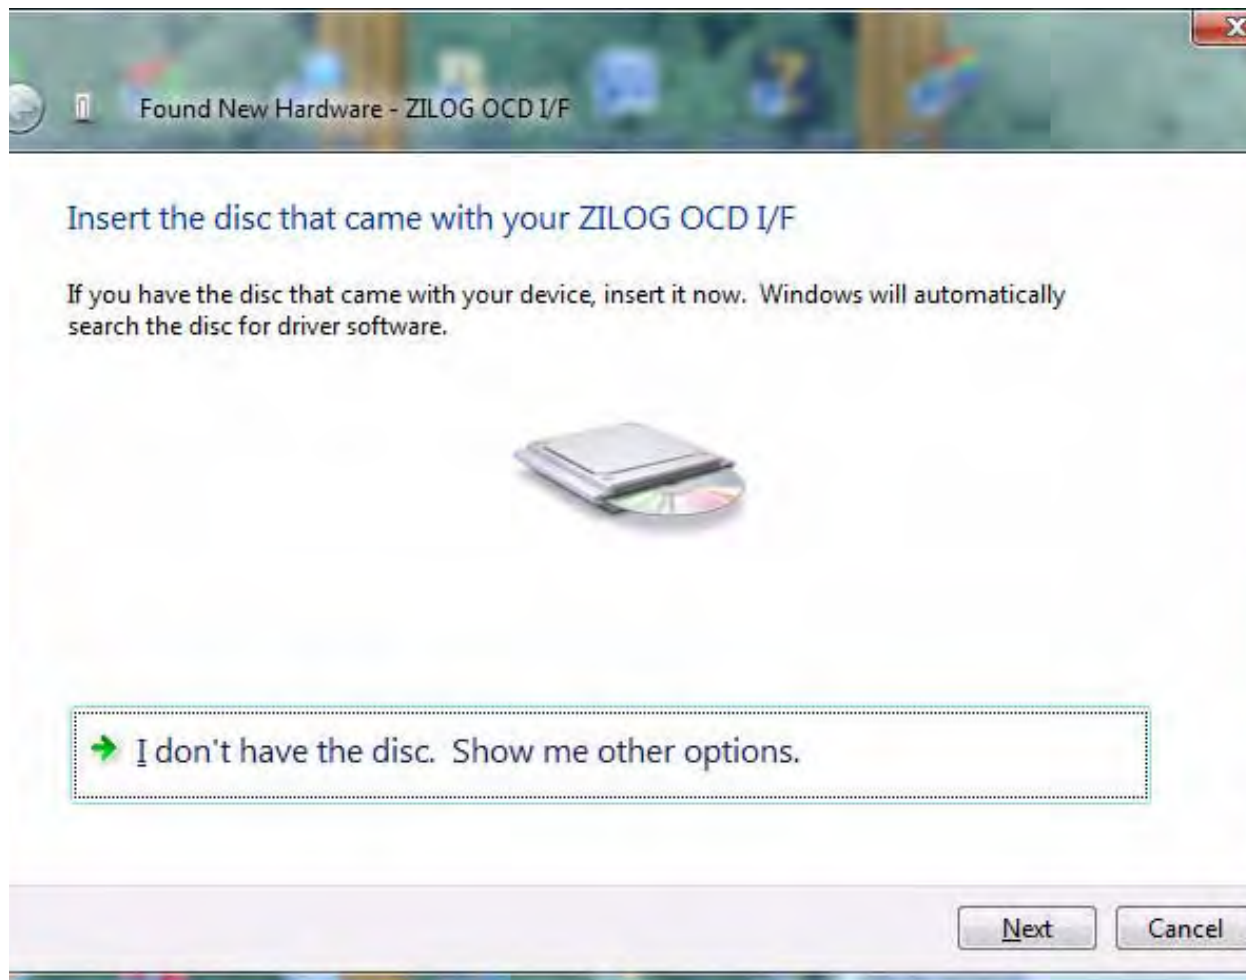
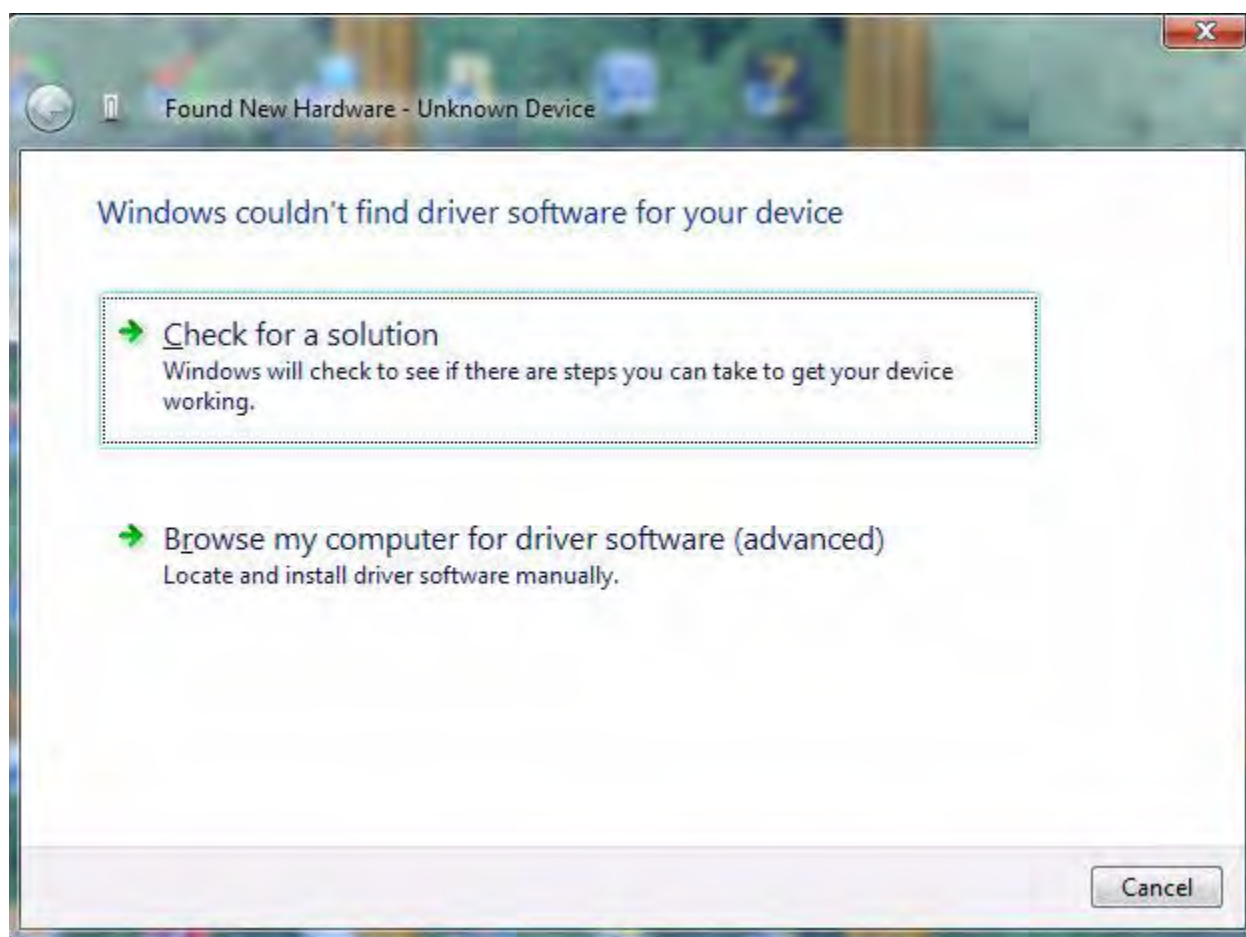

Figure 93. Install Device Driver Dialog, Windows Vista
Figure 94. Couldn't Find Driver Dialog, Windows Vista
4. When the **Insert the Disc** dialog appears, as shown in Figure 93, select **I don't have the disc. Show me other options.** Click the **Next** button to display the dialog that follows, which is shown in Figure 94.